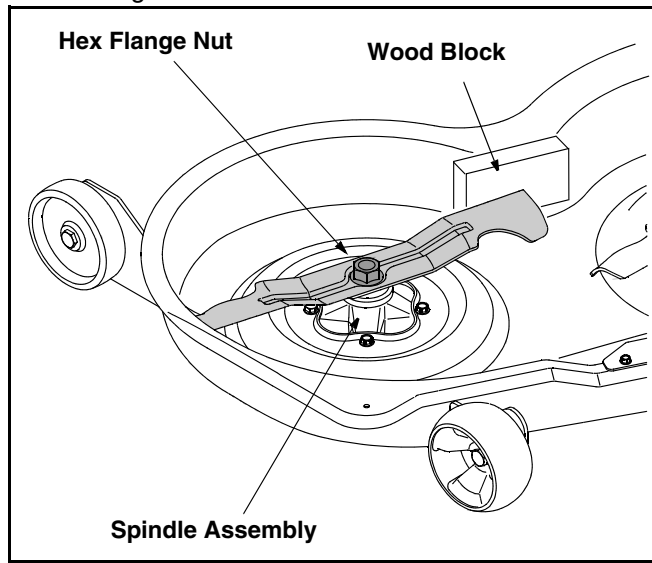

Figure 16
- Place a block of wood between the deck housing baffle and the cutting blade to act as a stabilizer. See Figure 16.
- Use a 1-1/8" wrench to remove the hex flange nut that secures the blade to the spindle assembly. See Figure 16.